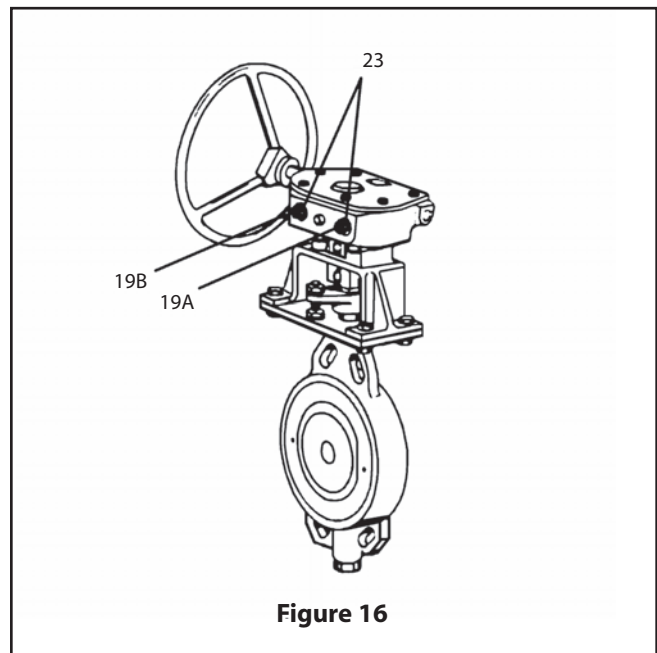

Figure 16
7.6 Setting Stops on MA Manual Gear Actuator (Figure 16)